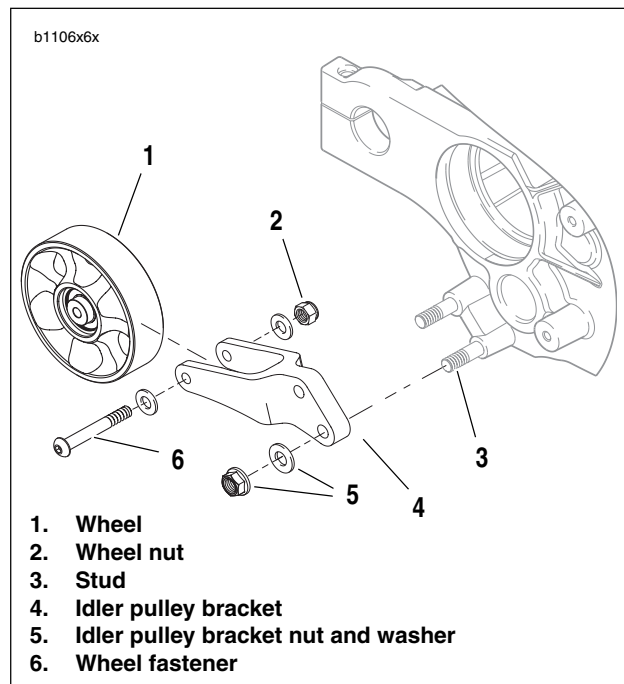

Figure 6-44. Idler Pulley Assembly
5. See Figure 6-44. Remove idler pulley bracket nuts and washers (5) from studs (3).
6. Slide idler pulley bracket (4) off studs (3).
7. See Figure 6-44. Inspect pulley by spinning wheel (1) and checking for wheel bearing wear. See INSPECTION under 1.10 DRIVE BELT.
8. If pulley wheel needs replacement, remove fastener (6), washer and nut (2) from idler pulley bracket (4) and discard wheel. Replace with **new** pulley wheel (1).
1. See Figure 6-44. Install new or existing pulley wheel (1), if removed, and tighten washer and nut (2) wheel fastener (6) to 20-23 ft-lbs (27.1-31.2 Nm).
2. Slide idler pulley bracket (4), washer and nuts (5) on to studs (3) and tighten to 33-35 ft-lbs (45-47 Nm). See DRIVE BELT INSTALLATION.